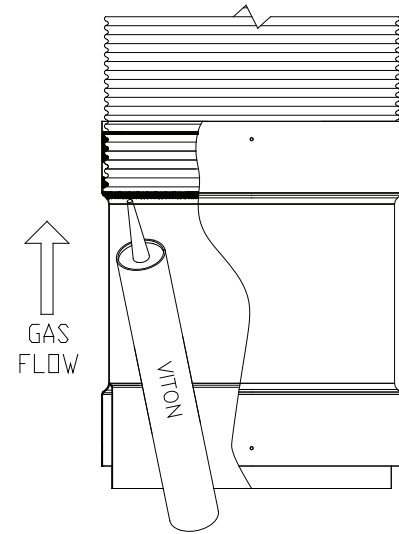

Figure 19-DuraSeal Flex assembly
- 2.2. Push the adapter on the liner all the way in, until you can't see the mark made on the flexible liner earlier (Figure 19). Make sure that the Viton® caulking is sealed well at the joint inside the adaptor by verifying inside the adaptor.